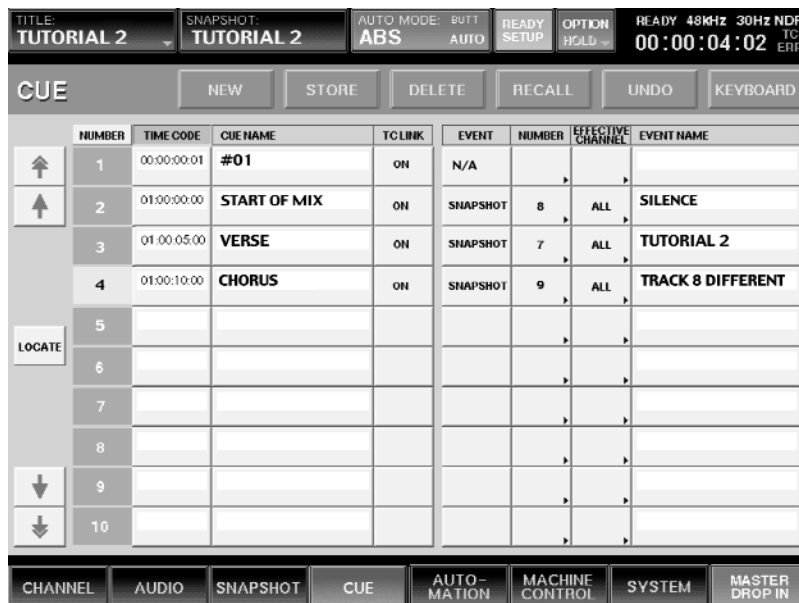

Figure 6
- In the CUE window, set TC LINK for Cues 2, 3, and 4 to ON, then highlight the TIME CODE value for CUE 3. Using the ten-keypad of the DMX-R100, enter a SMPTE time code value of 01:00:05:00 for CUE 3 (be sure to hit the Enter key on the keypad to complete the input). Then repeat the operation for CUE 4, this time entering a SMPTE time code value of 01:00:10:00. (See Figure 6)